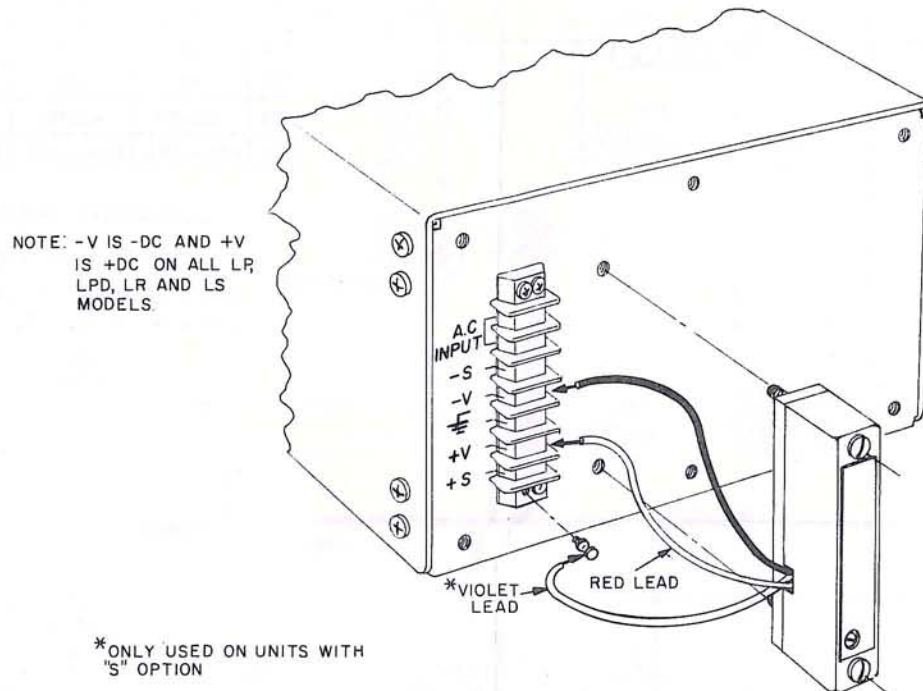

Figure 2. Overvoltage Protector, Typical Vertical Mounting
- (b) (Applicable only to "S" option units) Attach turret terminal to the barrier strip of power supply using hardware supplied with the overvoltage protector. Connect violet lead, from the protector, to turret terminal. See Figure 2.